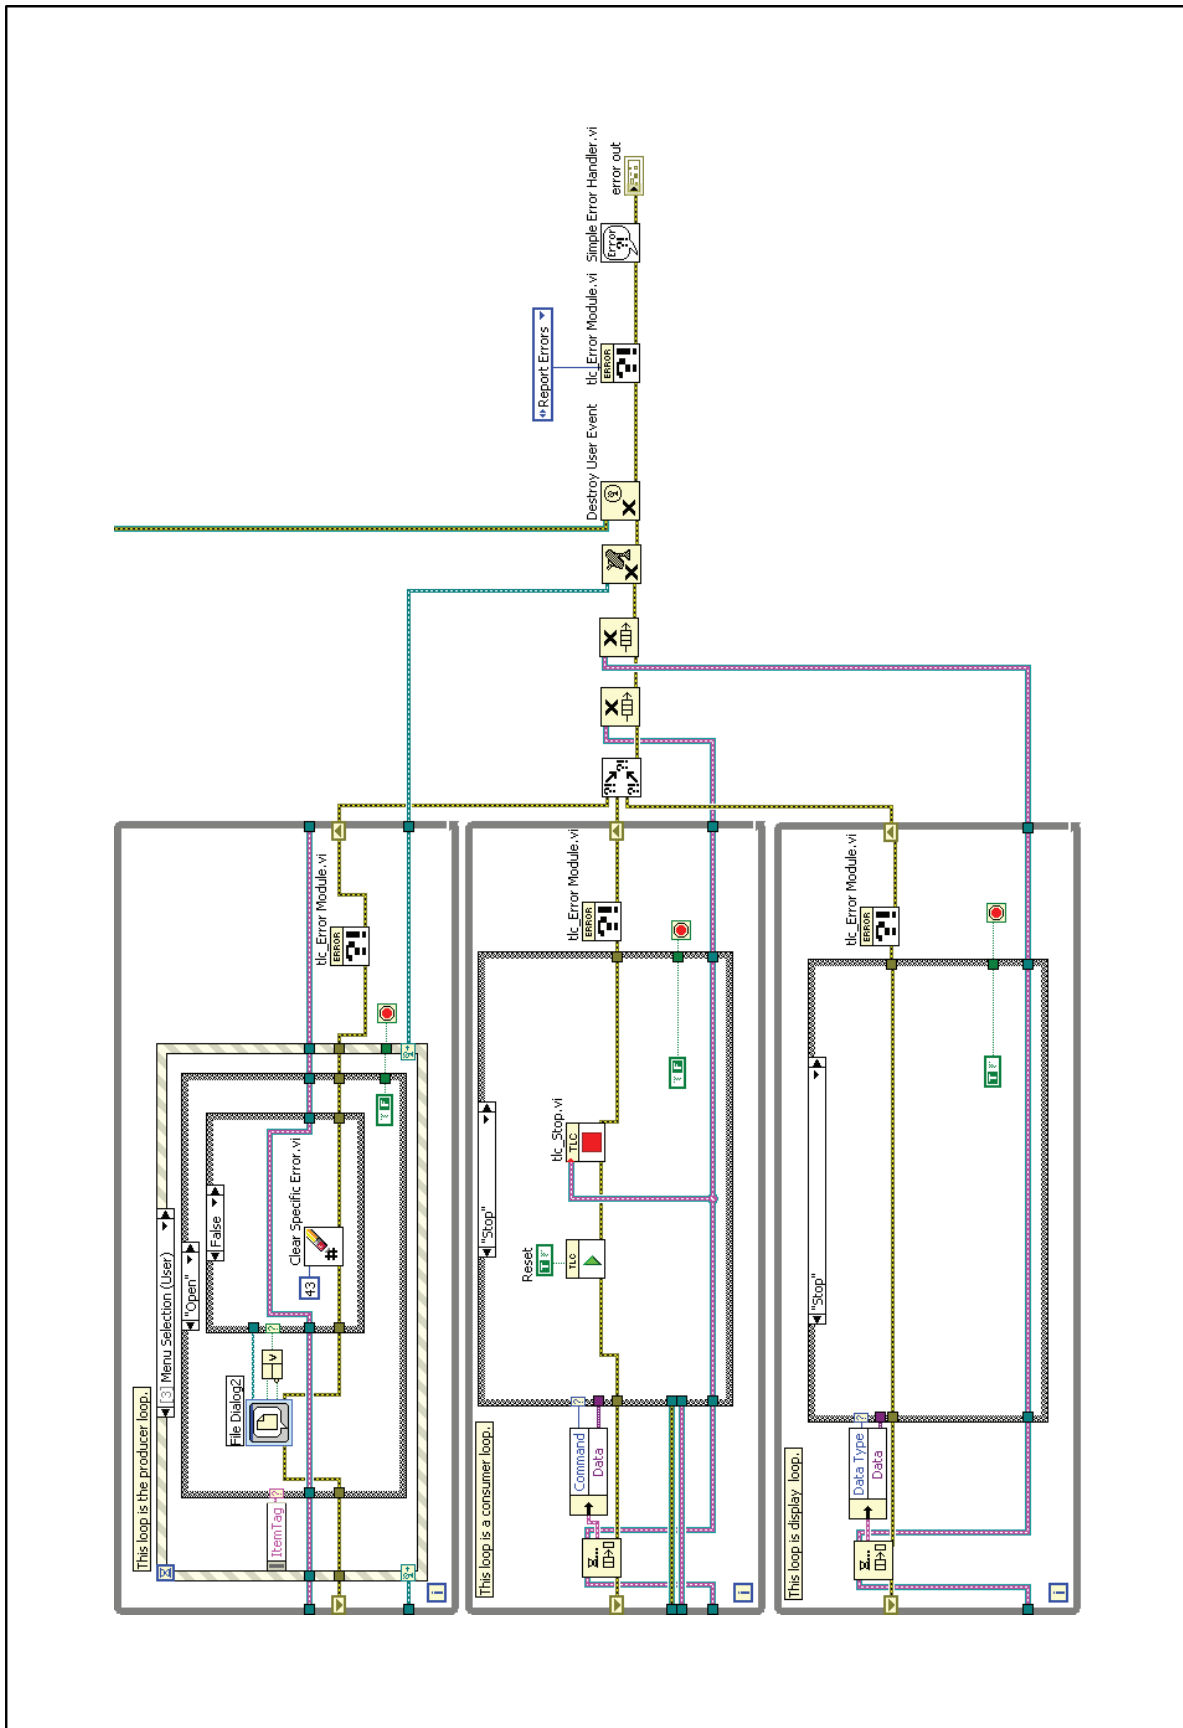

Figure 7-20. Producer/Consumer Design Pattern with Error Module
3. Modify the TLC Main VI to call the Error module after each computation in the producer, consumer, and display loop, as shown in Figure 7-20. Use the following items: